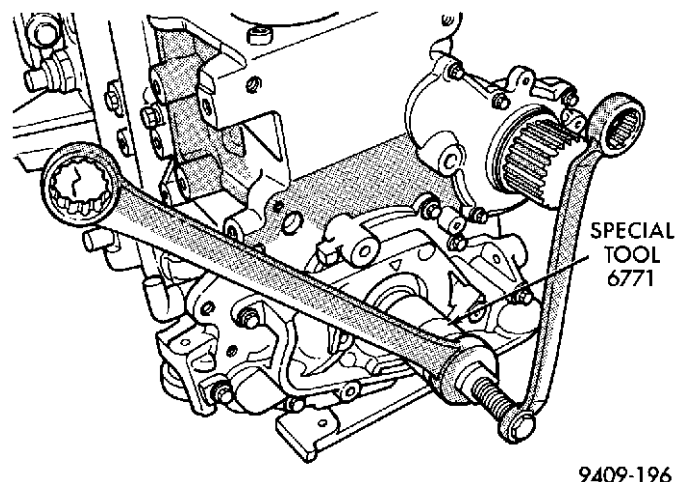

Fig. 58 Front Crankshaft Oil Seal—Removal
(4) Using Tool 6771 to remove front crankshaft oil seal (Fig. 58). Do not damage the seal contact area on the crankshaft.